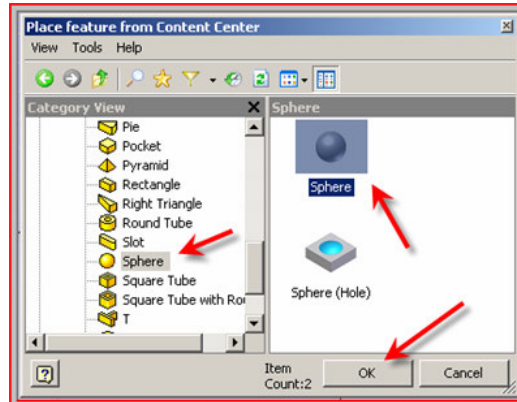

Figure 07 – Select Sphere option
Step 01: Click on Place Feature and select Sphere as shown in Figure 07